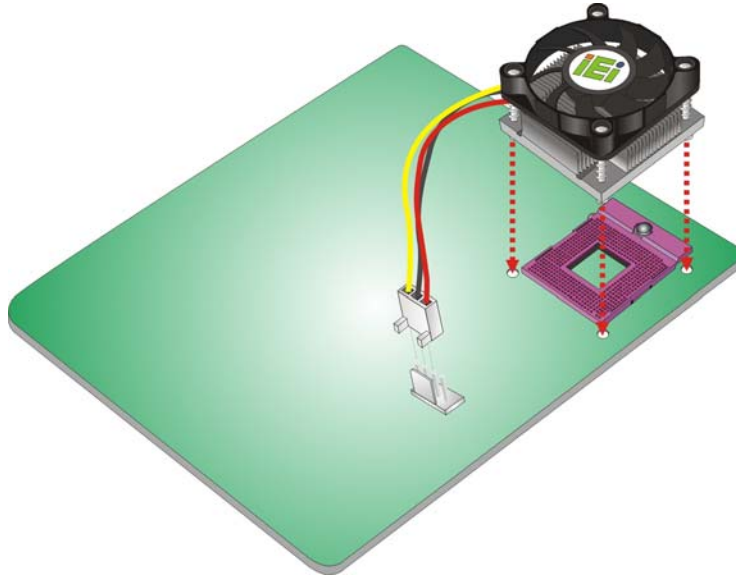

Figure 4-4: Align the Cooling Kit
Step 3: Properly align the cooling kit. Line up the four screws with the screw holes on the support bracket below the board (**Figure 4-4**).